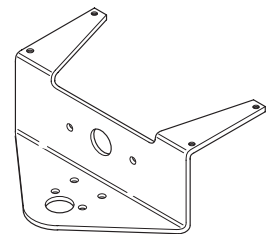

FIGURE 1
3. To under counter mount, choose a mounting surface that will support the weight of the unit. Using mounting bracket DCI part #4274 (not included), mount to underside of counter utilizing the four pre-drilled holes and appropriate fasteners (see Figure 1). Mount the back chassis assembly to the control unit using the appropriate fasteners.